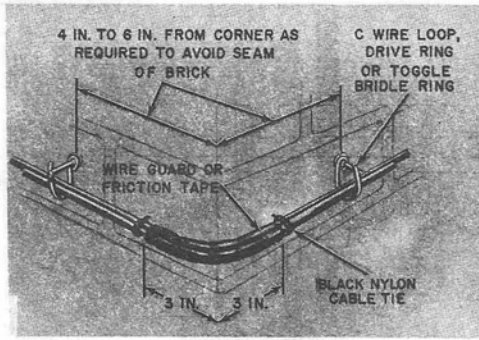

Fig. 22—Spacing Attachments at Outside Corner of Building
**7.01** Intermediate attachments on buildings are shown in Tables F, G, and H and in Fig. 22 through 30. Plan the wire run so the locations of the point of entrance and the location of the station protectors (where the latter are required) will conform to the rules covered in Section 462-005-100.